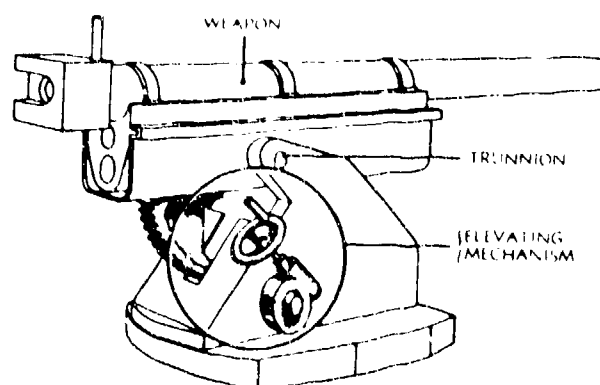

Figure 2-12. Elevating mechanism.
l. *Elevating mechanism.* The elevating mechanism (fig 2-12) consists of devices for elevating or depressing the tube and holding it at the desired angle while it is being fired. The final action generally is applied through an elevating arc attached to the cradle and an elevating pinion attached to the top carriage. When an arc and pinion are used, a worm and worm wheel usually